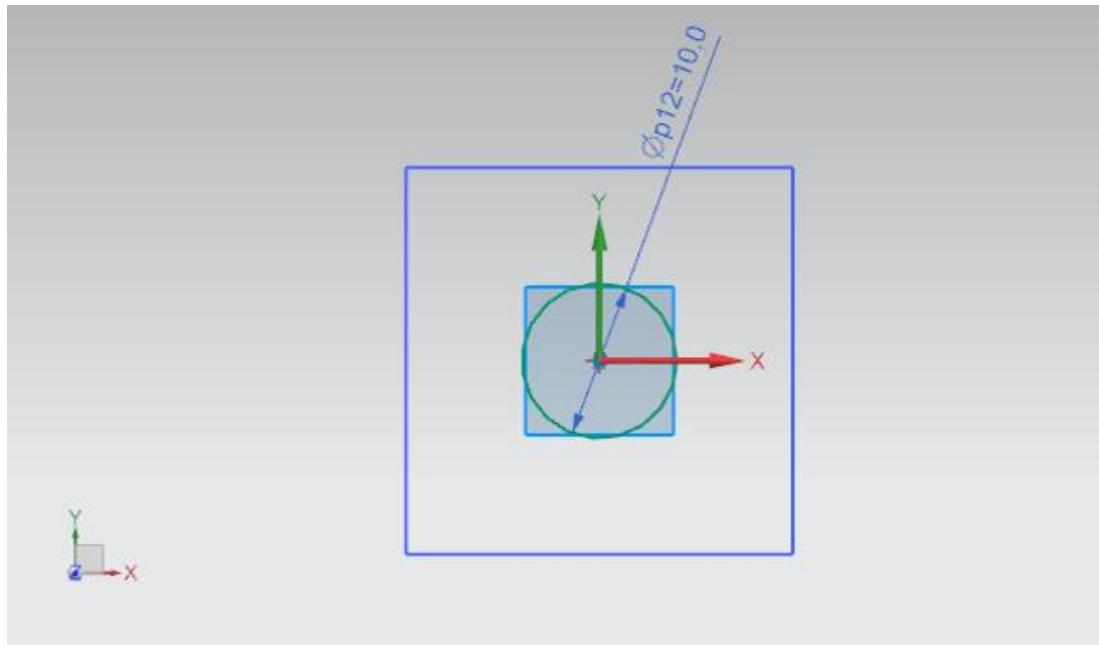

Figure 32: Sketch of the circle as the hole for the base
- Because the hole corresponds to the surface of a cylinder, follow the procedure indicated previously in Chapter 7.1.2. The circle is to have a diameter of **10 mm** in this case. Your sketch should now look like Figure 32. Then close the sketch.